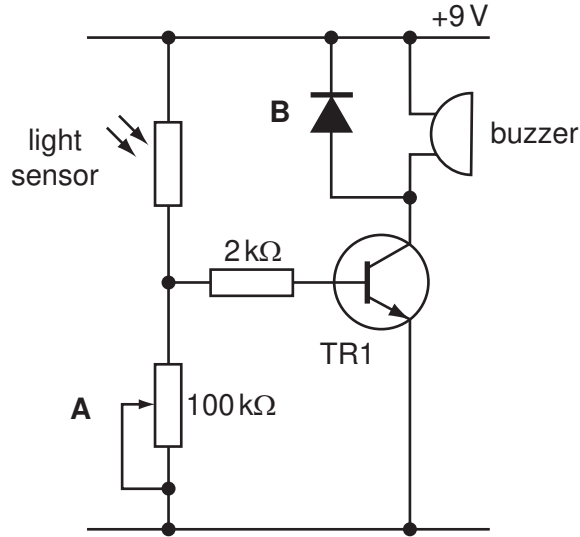

Fig. 6
- 11** Fig. 6 shows a circuit for a light-operated switch that will set off a buzzer when light falls on the sensor.
(b) (i) The circuit shown in Fig. 6 could be adapted to sense different environmental changes by using different sensors.
- (c) The circuit shown in Fig. 6 could be modified to make it more sensitive to smaller changes in light.